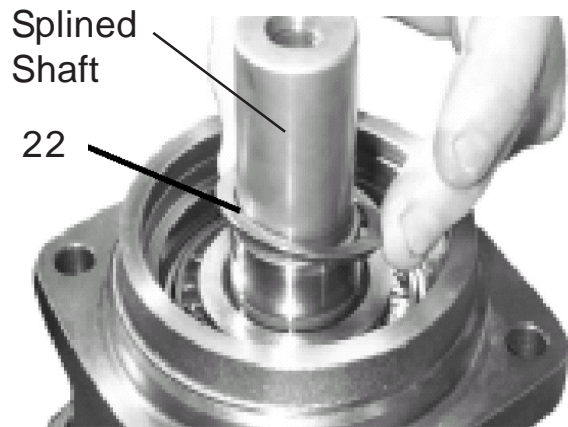

Figure 21
5. Install The Lower Bearing and Spacer Washers. Press lower bearing onto shaft until Zero End play is achieved. Install Lower bearing spacer washer (item 22) Quantity will vary as these shim type spacer washer are used to maintain zero bearing end play. Start with the same quantity that was removed and check. Adjust quantity as required to achieve proper bearing load. (See Figure 21)